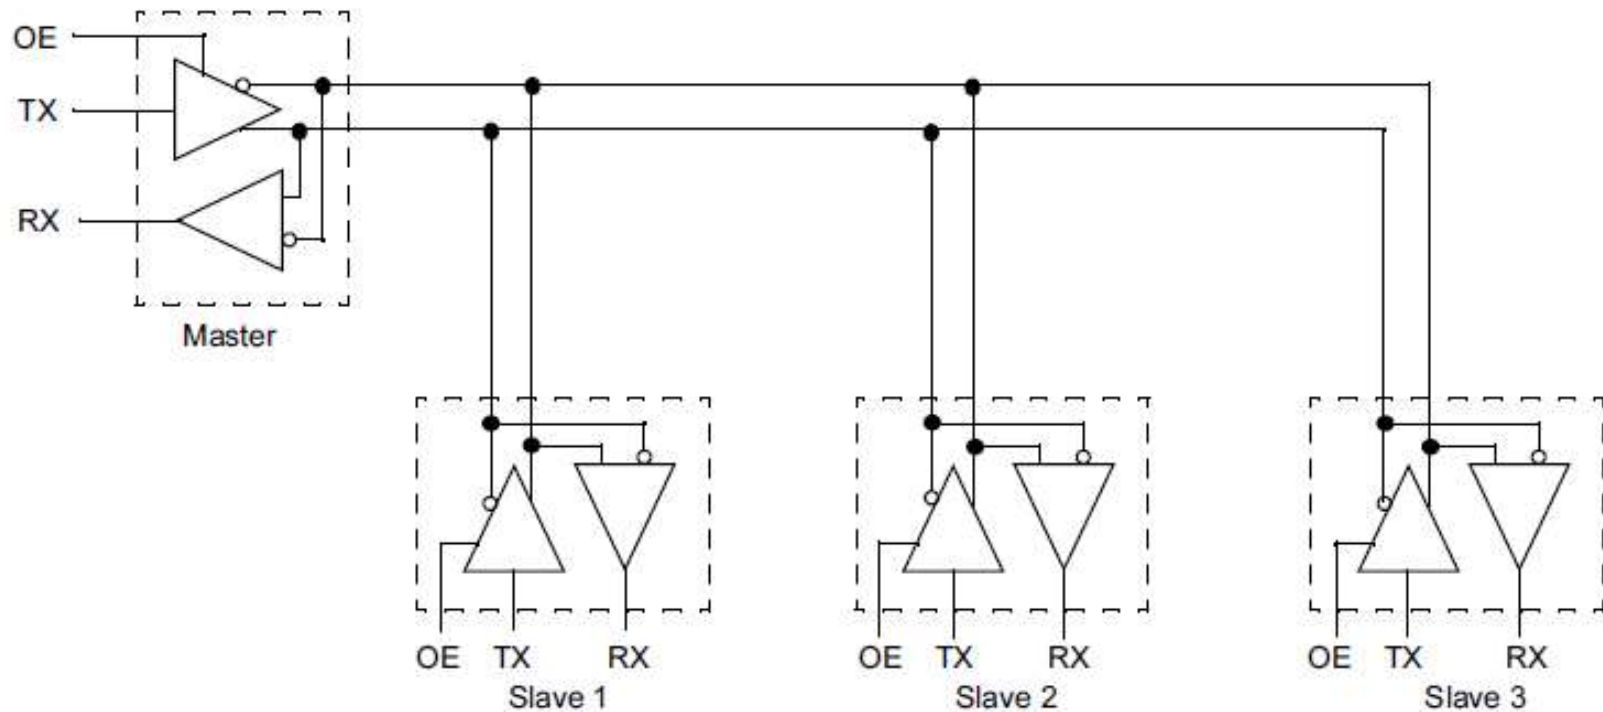

Figure 20: Typical RS-485 Two-wire Connection
- two (see Figure 20) pair(s) of wires.